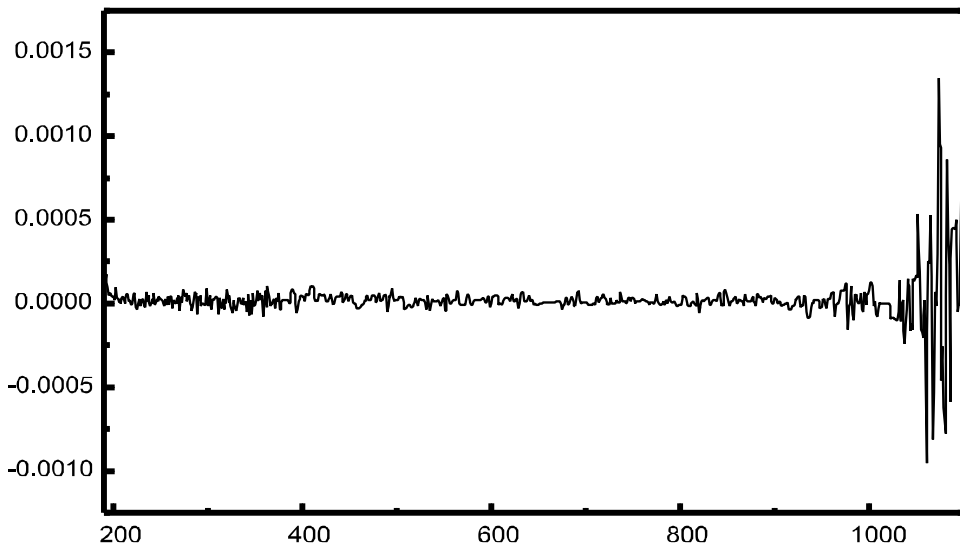
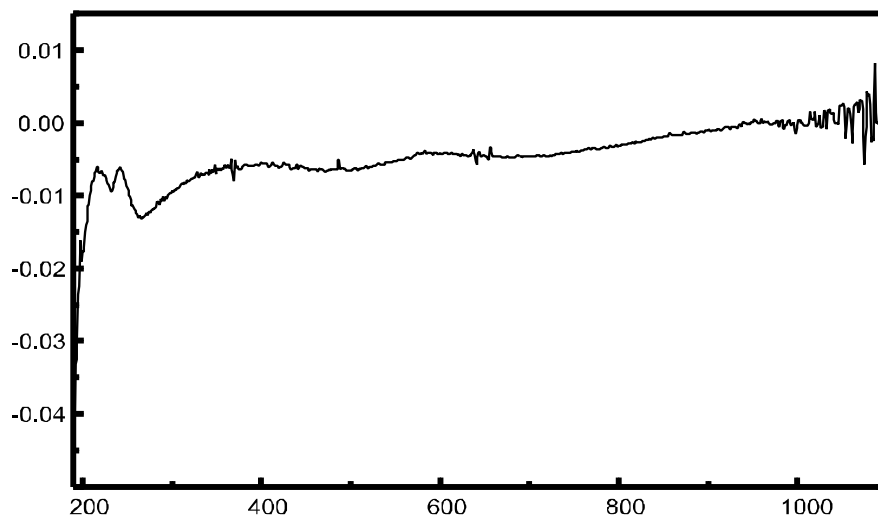

Figure 9 Example of a Blank on Water Showing a Good Baseline
Figure 10 Example of a Blank on Water with Bubbles Causing a Poor Baseline
- ✓ Blank measurement shows a flat baseline (Figure 9 and Figure 10 on page 52 show a good and a poor baseline)
If your blank or spectra shows artifacts similar to the one in Figure 10, see “Solvents” on page 46 to optimize the measurement procedure.